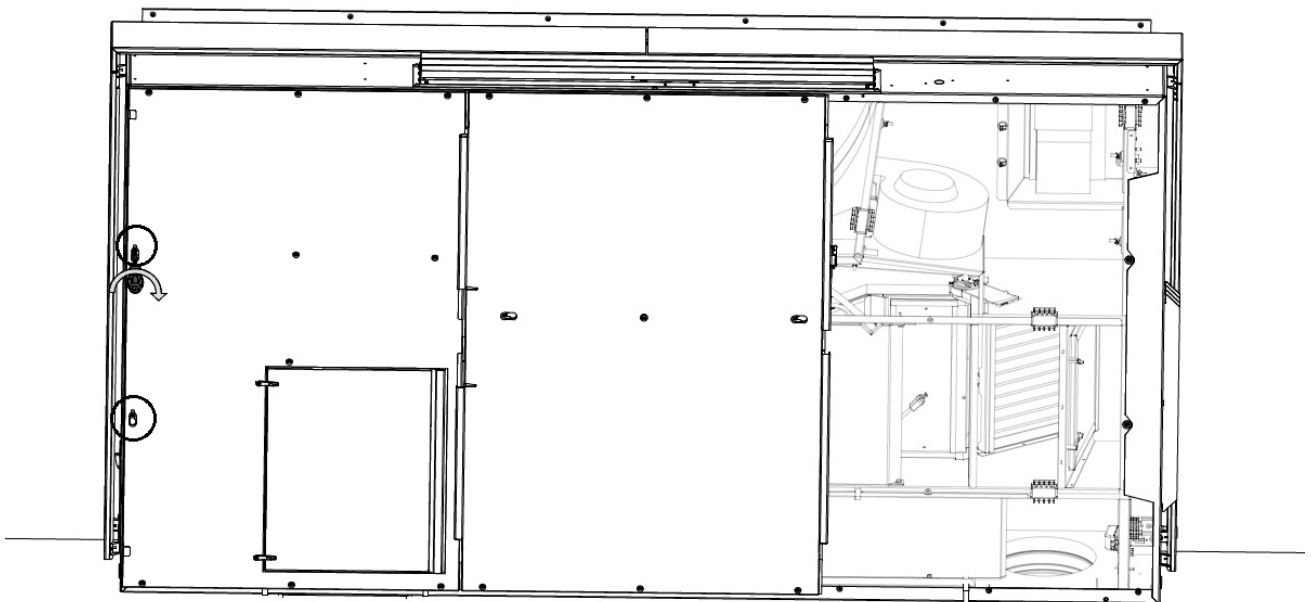

Figure 44: Tighten the bolts
9. Tighten the bolts in the keyhole, see Figure 44.